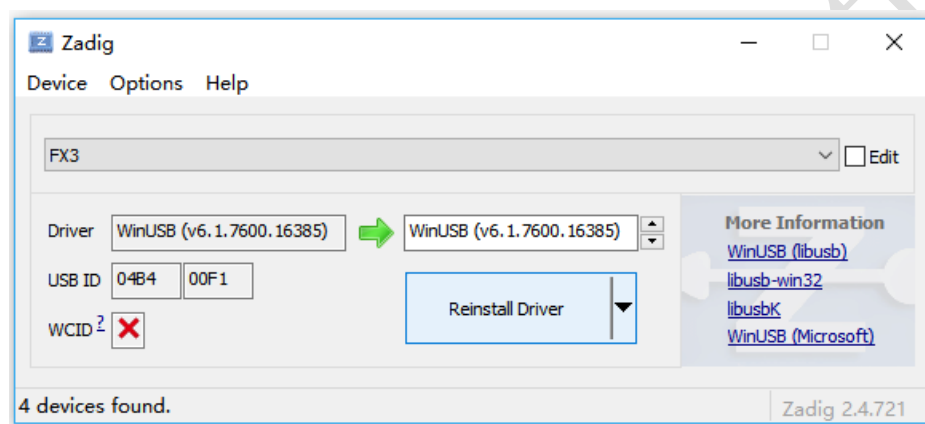
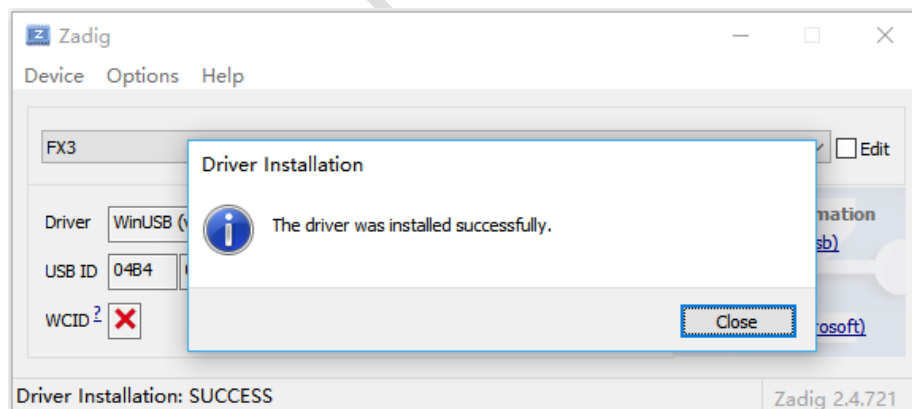

Fig. 2-4
Fig. 2-5
- (3) Click “**Install Driver**” or “**Reinstall Driver**” (Fig. 2-4) to install the driver. After the installation is successful, Figure 2-5 will be shown.